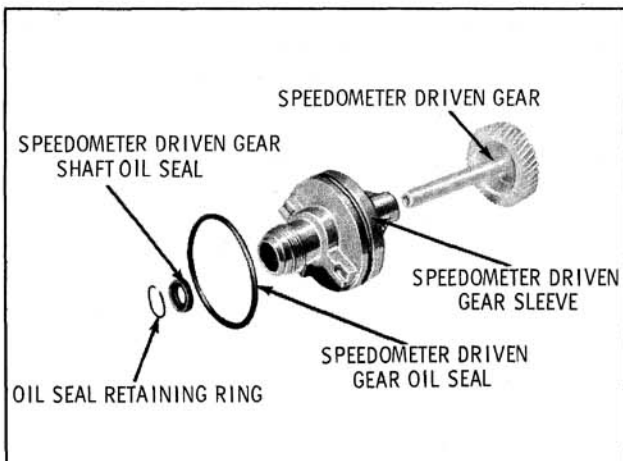

Fig. 6-453 Speedometer Driven Gear
1. Remove speedometer driven gear. (Fig. 6-453)
2. Examine speedometer driven gear oil seal. If nicked, torn or worn, remove seal. (Fig. 6-453)
2. Install speedometer driven gear oil seal. (Fig. 6-453)